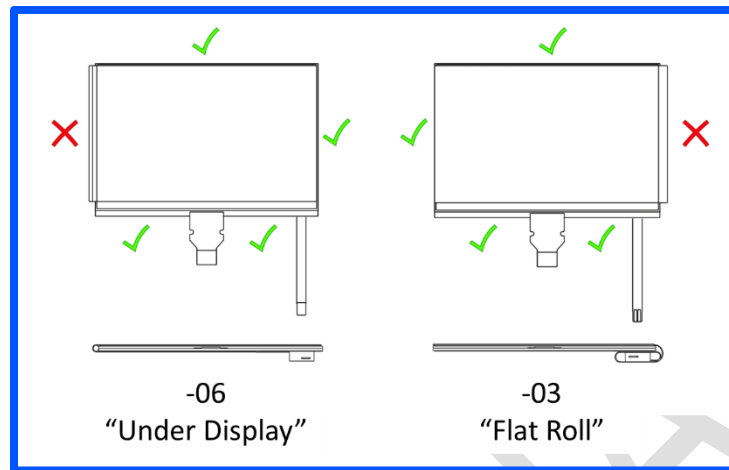

Figure 13. Identification of edges to be used for handling and mounting Azumo LCD 2.0 in final product.
- When handling the product, grasp onto the LCD edges that are not covered by the FLP (see Fig. 13).